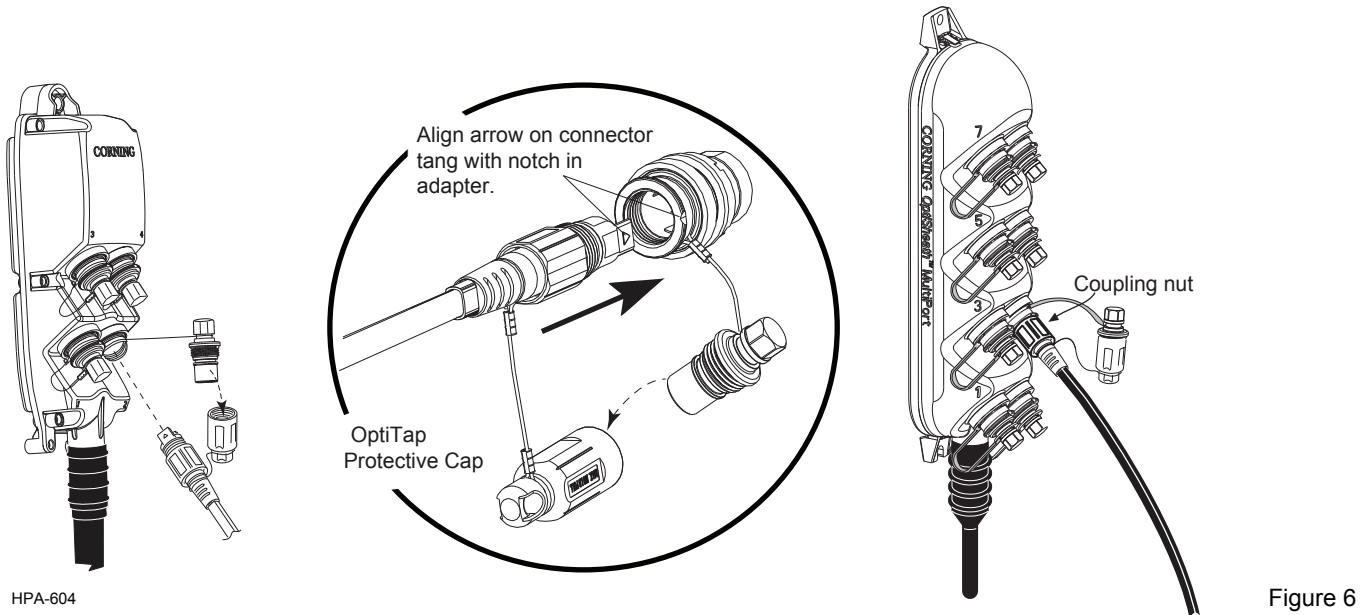

Figure 6
**4.10** Keeping the terminal's adapter facing down, install the OptiTap connector as follows (Figure 6):